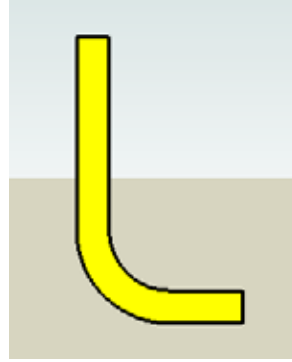

Figure 2-53
3. Use the Eraser tool to remove the rest of the rectangle, and paint your half-section (Figure 2-53).